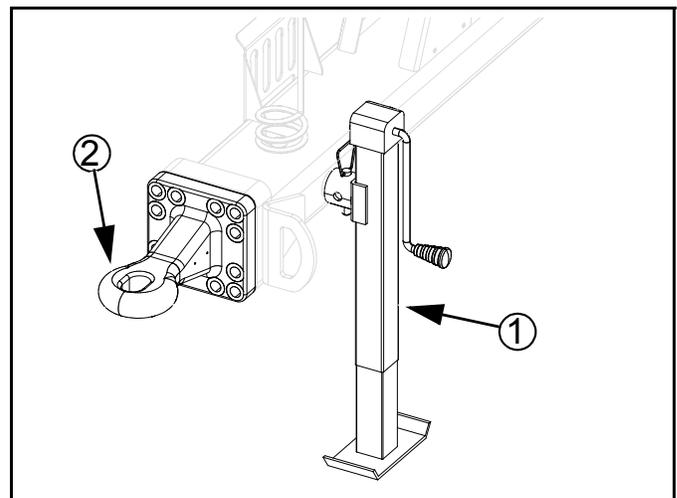

Figure 3
**Refer to Figure 3**
3. Use jack (1) to raise and lower turbo max tongue.
4. Back tractor draw bar into alignment with hitch (2).